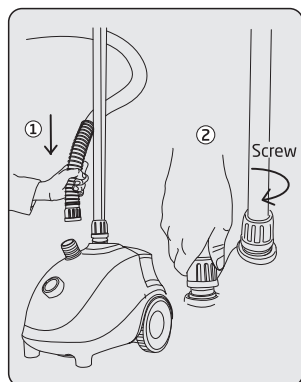

FIGURE 5
3. Insert and connect the hose with the hose connector nut. Screw the hose connector nut to lock in place. (see figure 5)